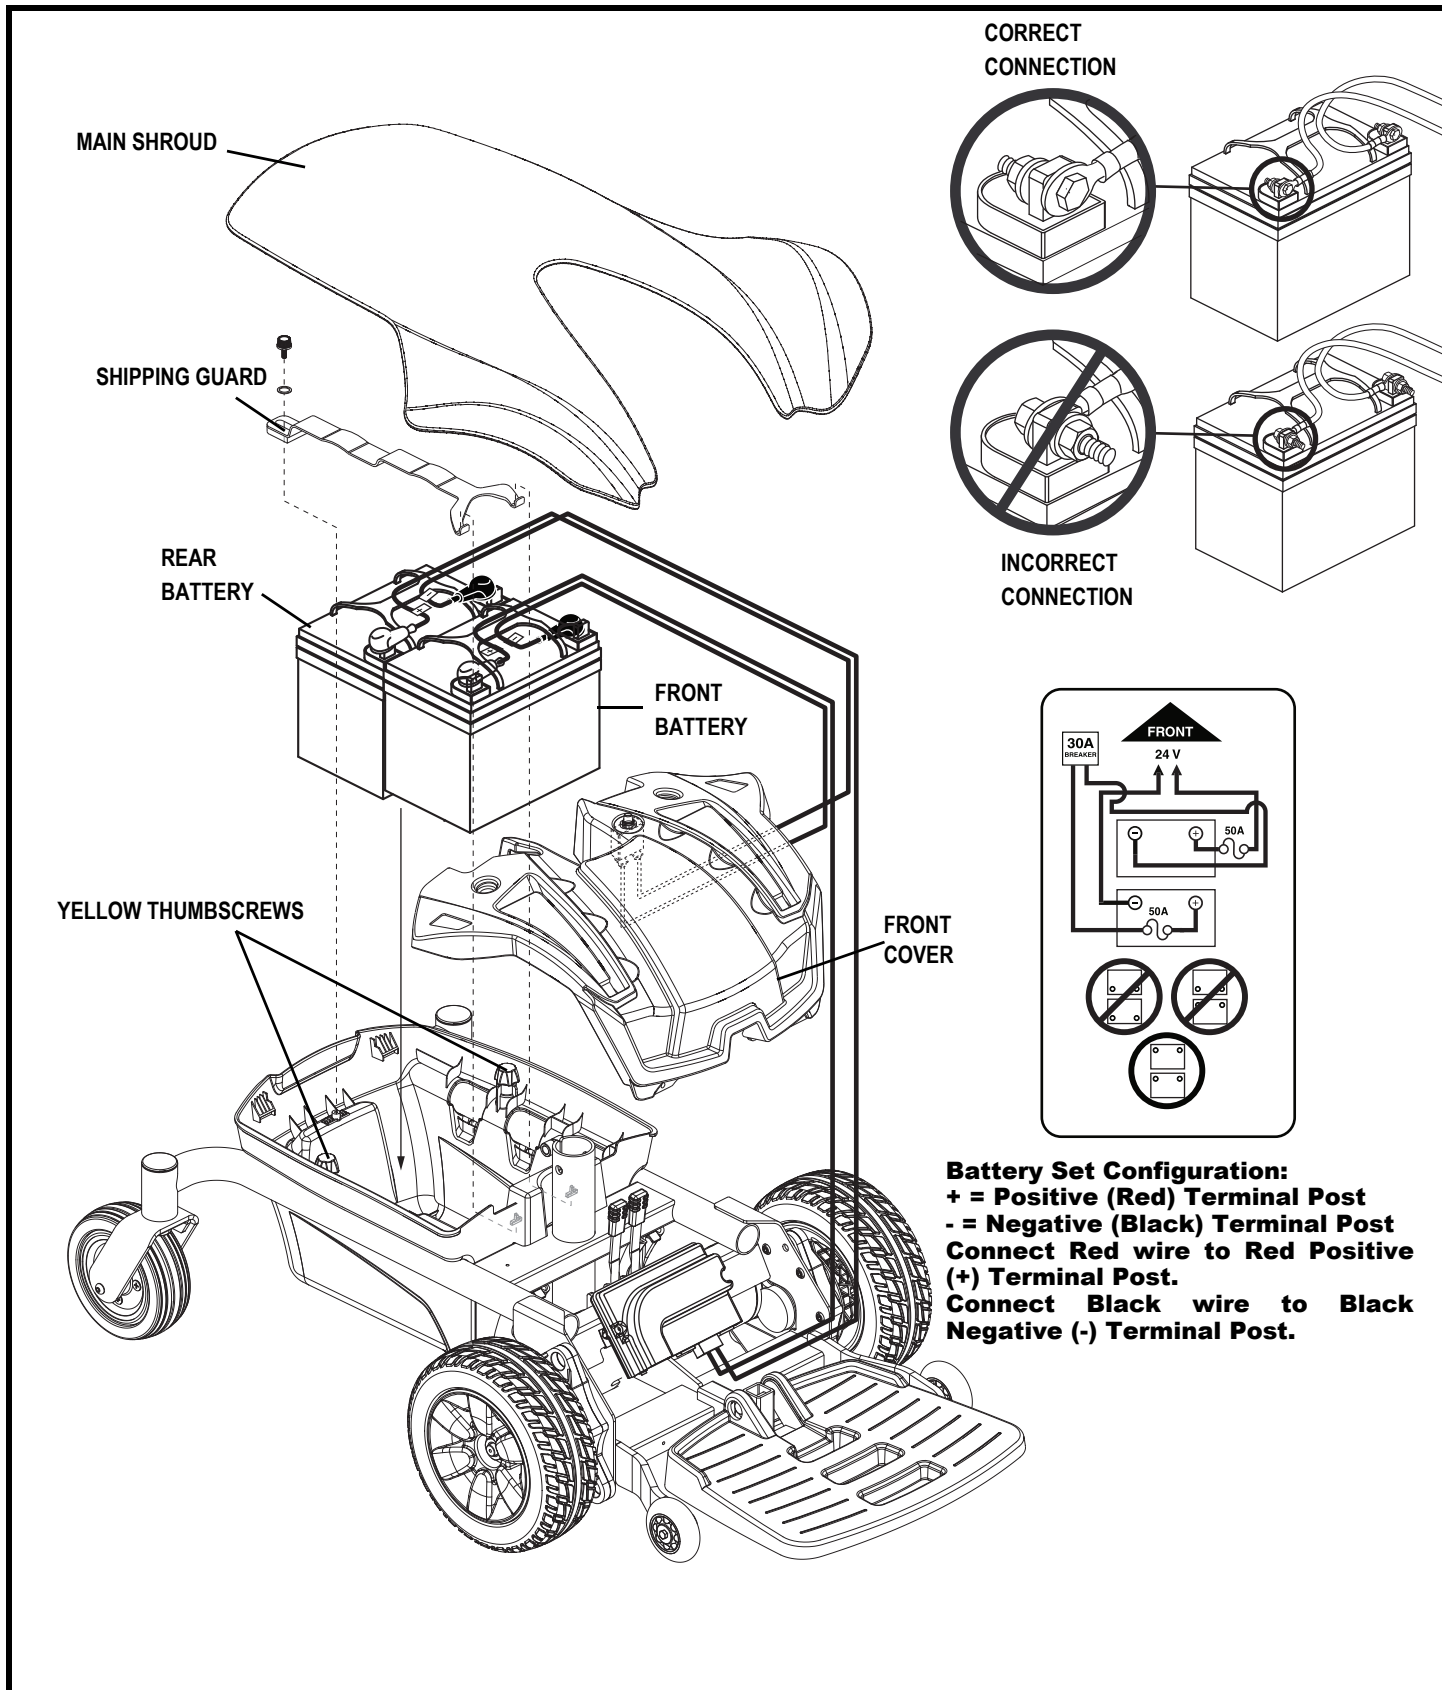

Figure 17. Battery Installation (Seat Removed for Clarity)
4. Remove the main shroud by lifting the rear of the shroud up and pulling the shroud back. **See figure 17.**
5. Remove the shipping guard if applicable. **See figure 17.**
6. Disconnect the battery cables from the battery terminals of each battery. **See figure 17.**
9. Install new batteries into the battery tray. Make sure the terminals of each battery are facing the front of the power chair. **See figure 17.**
11. Connect the front battery cable to the front battery terminals according to the battery wiring diagram. Make sure that the battery terminal hardware is facing the correct direction. **See figure 17.**
12. Connect the rear battery cable to the rear battery terminals according to the battery wiring diagram. Make sure that the battery terminal hardware is facing the correct direction. **See figure 17.**